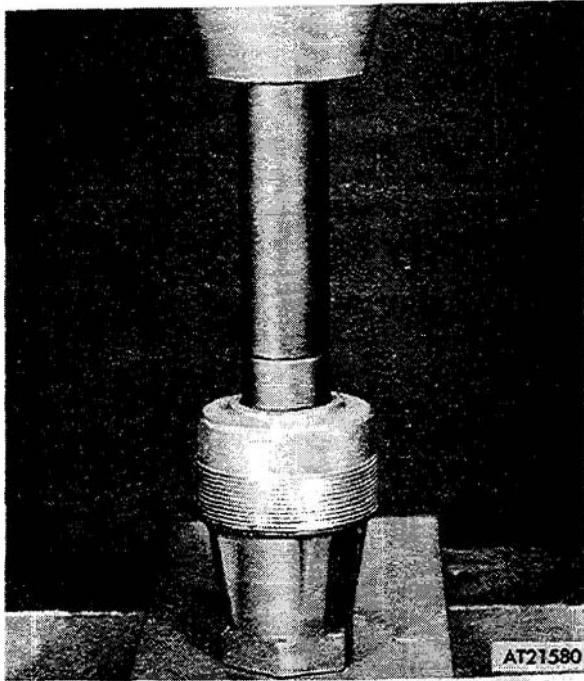
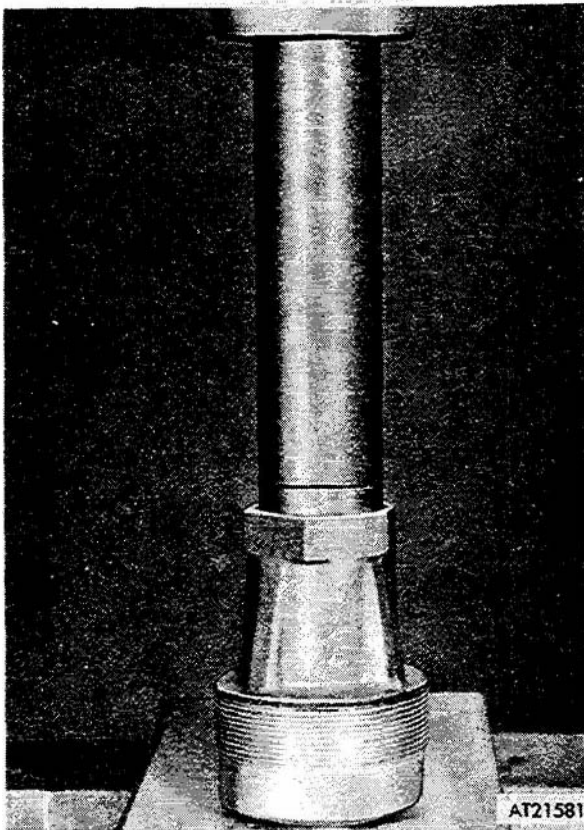

Figure 3-207. Pressing needle bearing into gear housing.
Figure 3-208. Pressing seal into gear housing.
(9) Position bearing (27) and washer (2 B) on gear (26). Press needle bearing (29) into housing (30) as shown in figure 3-207. Turn housing (30, fig 3-195) over and press needle bearing (31) into housing until it is below seal retaining shoulder. Press seal (32) into housing (fig. 3-208).